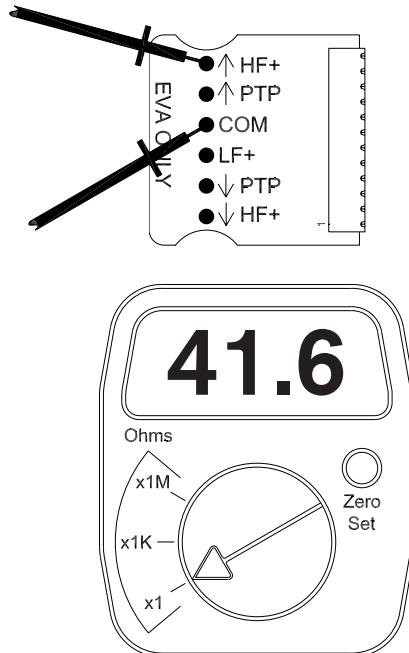
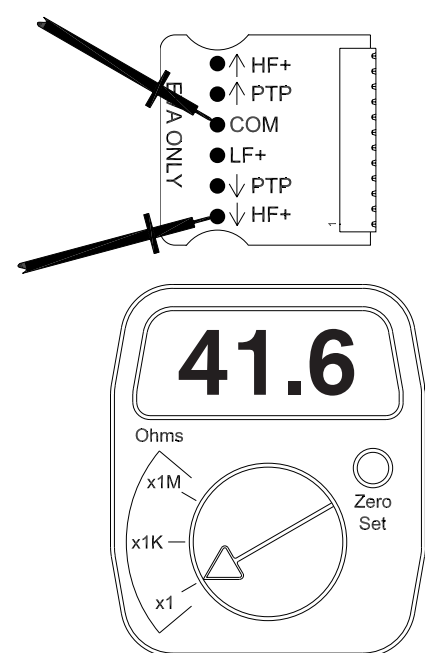

Figure 7a:
Figure 7b:
2. Test the compression driver pairs: Test the upper compression driver pair by placing one test lead securely on the UPPER YELLOW test point and the other on the BLACK (common) test point on the Access Card. A properly functioning compression driver pair will read approximately 41.6 ohms DCR, ± 1 ohm (See Figure 7a). A significantly higher reading indicates one of the compression drivers has an open voice coil, meaning the compression driver(s) must be replaced. A significantly lower reading indicates one or both of the compression driver voice coils are shorting, meaning the compression driver(s) must be replaced. Test the lower compression driver pair by repeating the above test with the meter connected to the LOWER YELLOW test point (See Figure 7b).